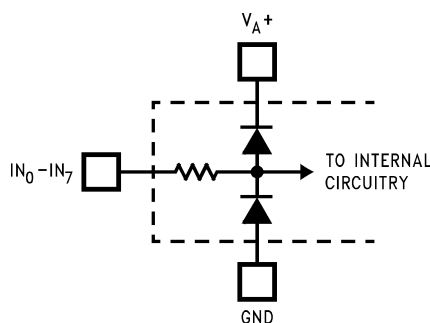

Figure 3.
- (1) Two on-chip diodes are tied to each analog input through a series resistor, as shown below. Input voltage magnitude up to 5V above V_{A+} or 5V below GND will not damage the LM12L458. However, errors in the A/D conversion can occur if these diodes are forward biased by more than 100 mV. As an example, if V_{A+} is 3.0 V_{DC} , full-scale input voltage must be $\approx 3.1 V_{DC}$ to ensure accurate conversions. See Figure 3
- (2) V_{A+} and V_{D+} must be connected together to the same power supply voltage and bypassed with separate capacitors at each V^+ pin to assure conversion/comparison accuracy.
- (3) Accuracy is ensured when operating at $f_{CLK} = 6\text{ MHz}$.
- (4) With the test condition for $V_{REF} = V_{REF+} - V_{REF-}$ given as +2.5V, the 12-bit LSB is 305 μV and the 8-bit/"Watchdog" LSB is 4.88 mV.
- (5) Typical figures are at $T_A = 25^\circ C$ and represent most likely parametric norm.
- (6) Limits are specified to AOQL (Average Output Quality Level).
- (4) Typical figures are at $T_A = 25^\circ\text{C}$ and represent most likely parametric norm.
- (5) Limits are specified to AOQL (Average Output Quality Level).
- (2) V_{A+} and V_{D+} must be connected together to the same power supply voltage and bypassed with separate capacitors at each V^{+} pin to assure conversion/comparison accuracy.
- (3) Accuracy is ensured when operating at $f_{CLK} = 6 \text{ MHz}$.
- (4) Typical figures are at $T_A = 25^{\circ}C$ and represent most likely parametric norm.